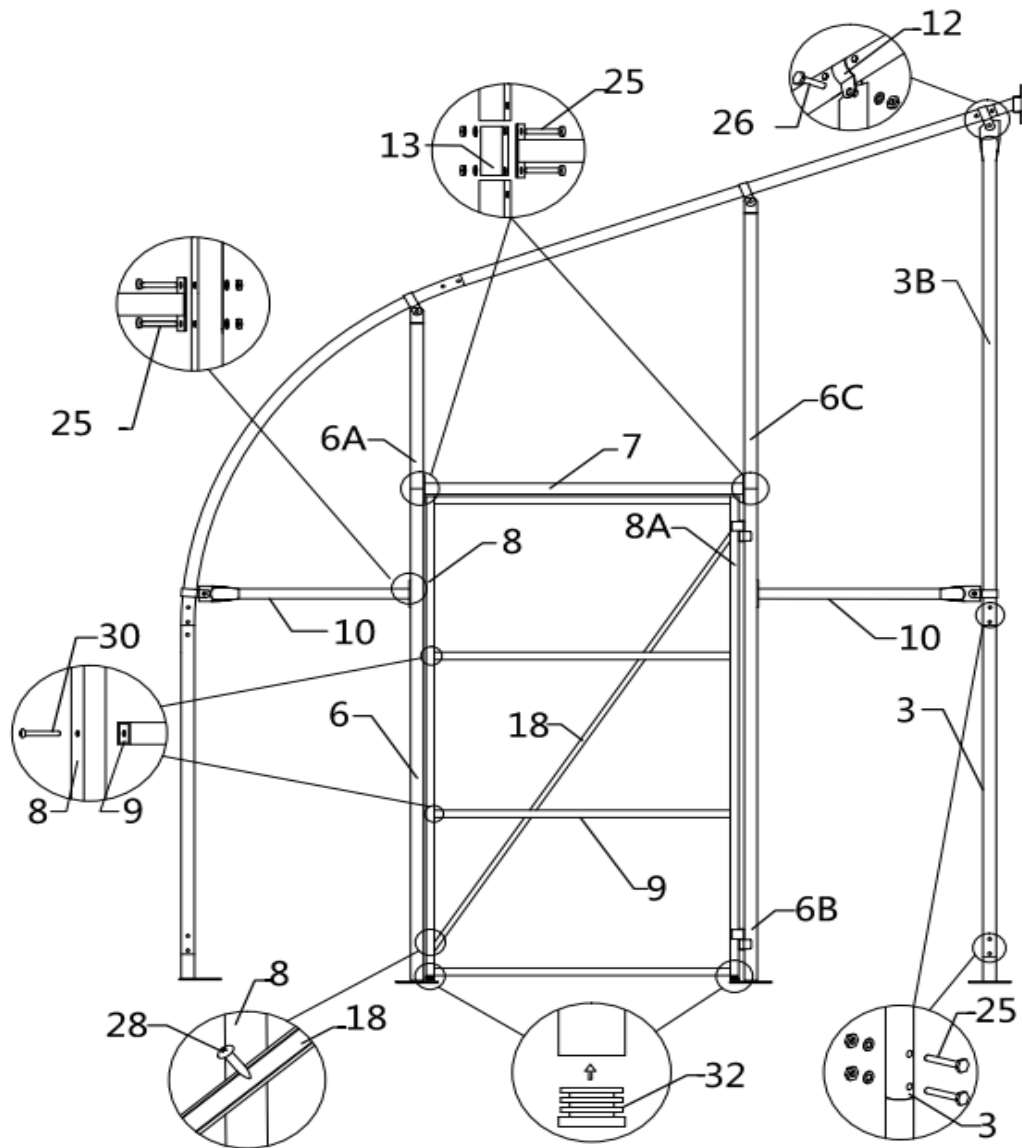

Figure 7
Step 6 : Install the front truss riser and door (refer to figure 7).
- (1) Sidewall tube (#3)